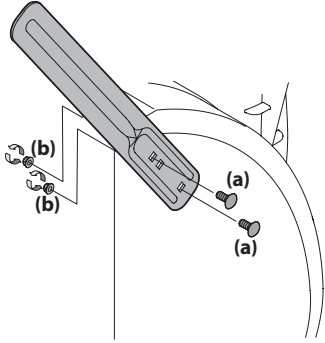

Figure 2-51
1. Remove two screws (a) and lock nuts (b) that secure each drift cutter, and remove them from the sides of auger housing. See Figure 2-51.
2. Turn the drift cutters around and position them as shown in Figure 2-51 to the outside of the auger housing.